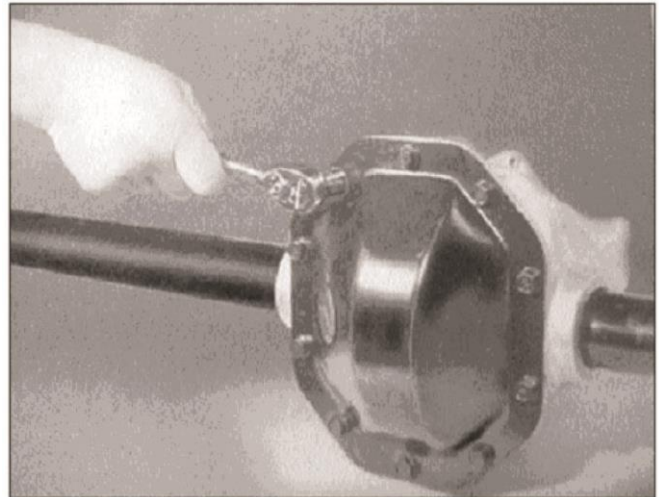

Figure 7-32
1. Remove ten cover plate bolts (Figure 7-32). 2. Remove cover and drain oil into drain pan.